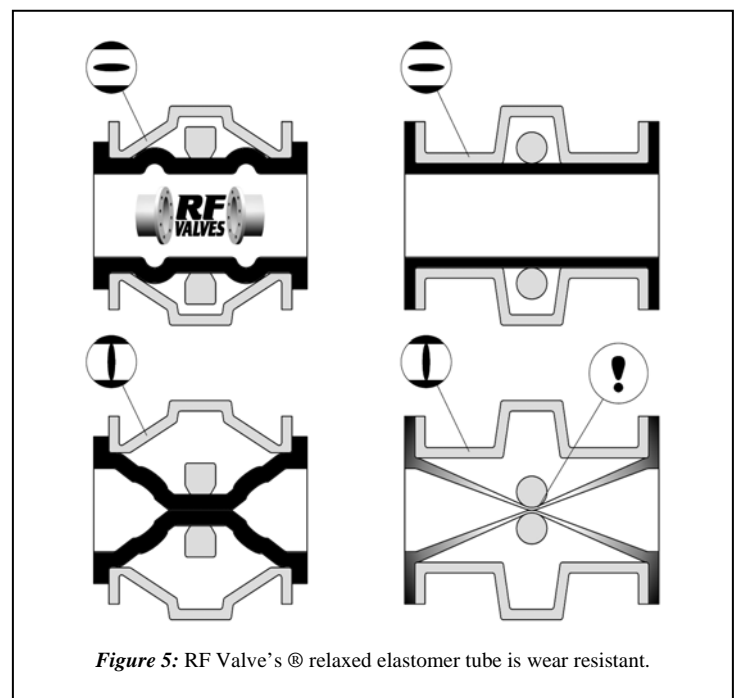

Figure 5: RF Valve's® relaxed elastomer tube is wear resistant.
- To provide greater resistance to abrasion in slurry applications since the RF Valve® elastomer tube is flexed, not stretched, during closure. Just as it is easier to cut rubber under tension than when it is relaxed, elastomer tubes that stretch during closure experience increased wear (Fig. 5).